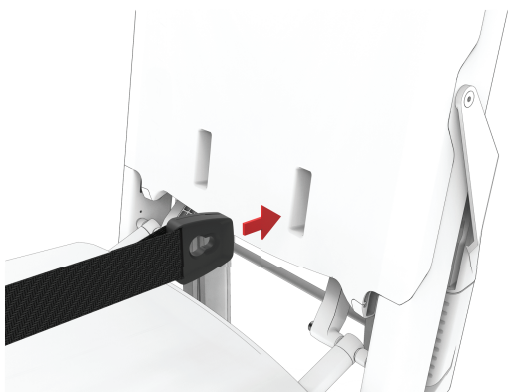
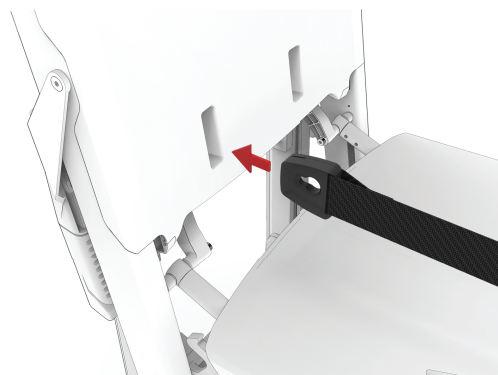

**Figure 18 – Seat post, parallel**
**Figure 19 – Seat post, crossed**
**Note** - You can attach the seat clip in the parallel or crossed configuration, depending on patient size (Figure 18 and Figure 19).